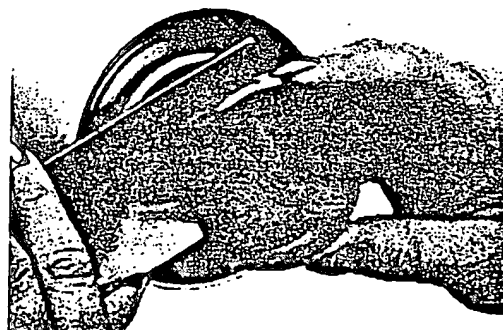

Figure 11
2. To remove atomizer bell, place RPM-419 wrench over flats of shaft to lock shaft. Unscrew atomizer bell by hand turning CCW. See Figure 11.
2. Place RPM-419 wrench over wrench flats of shaft to lock the shaft. See Figure 11.
3. Screw atomizer bell onto shaft in CW direction. (Hand tighten only). See Figure 11.